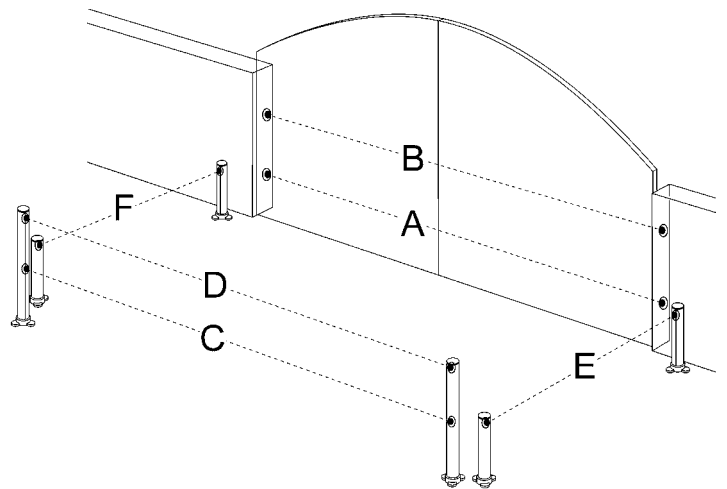
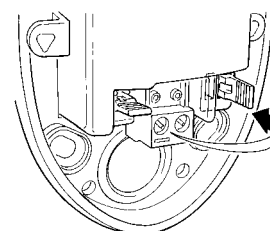

Figure 64
Figure 65
Additional photocells can be installed at any time on top of those supplied with WU2. In an automation system for 2-leaf gates these can be arranged as shown in Figure 64.
- 2 Identify the position where they are installed based on figure 64 and connect with jumper according to Table 11. The unused jumpers must be stored in their proper compartment for future use (Figure 65).